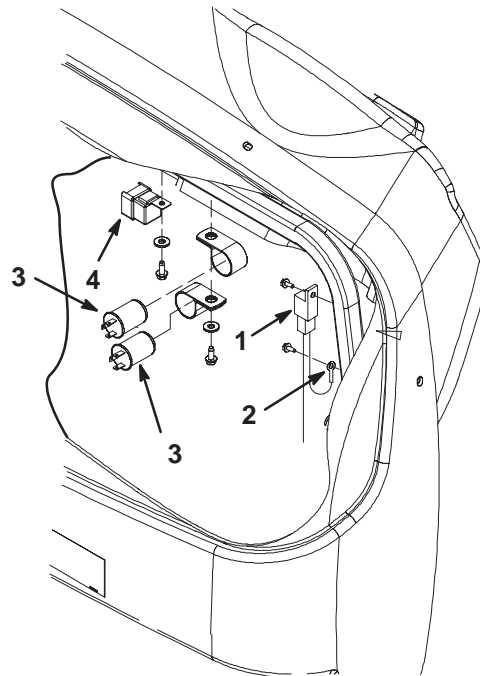

Figure 7
15. Under the left side of the dash, locate the two holes in the left inside of the dash support tube (Fig. 7). Using the top hole, mount the signal relay to the tube with a #10–24 x 1/2" lg. self tapping screw (Fig. 7).
Note: If the mounting holes are not present in the dash support tube, drill two .166" dia. holes at the approximate locations shown in figure 7.
- 3. Flasher (2)
16. Using the bottom hole, mount the signal relay ground wire ring terminal and the black ground wire from the accessory wire harness to the tube with a #10-24 x 1/2" lg. self tapping screw (Fig. 7).
17. Locate the two holes in the underside of the dash support tube (Fig. 7). Mount the light relay and the two flashers to the tube with two 1/4-20 x 5/8" lg. self tapping screws and washers (Fig. 7).
Note: If the mounting holes in the dash support tube are too large, drill two .218" dia. holes at the approximate locations shown in figure 7.